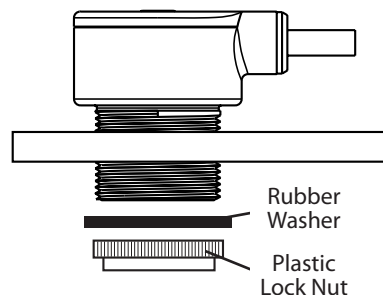

FIG. 4
- 4** Unscrew the plastic lock nut from the bottom of the sensor. Install the sensor through the drum lid, rubber washer, and plastic lock nut and tighten [FIG 4].